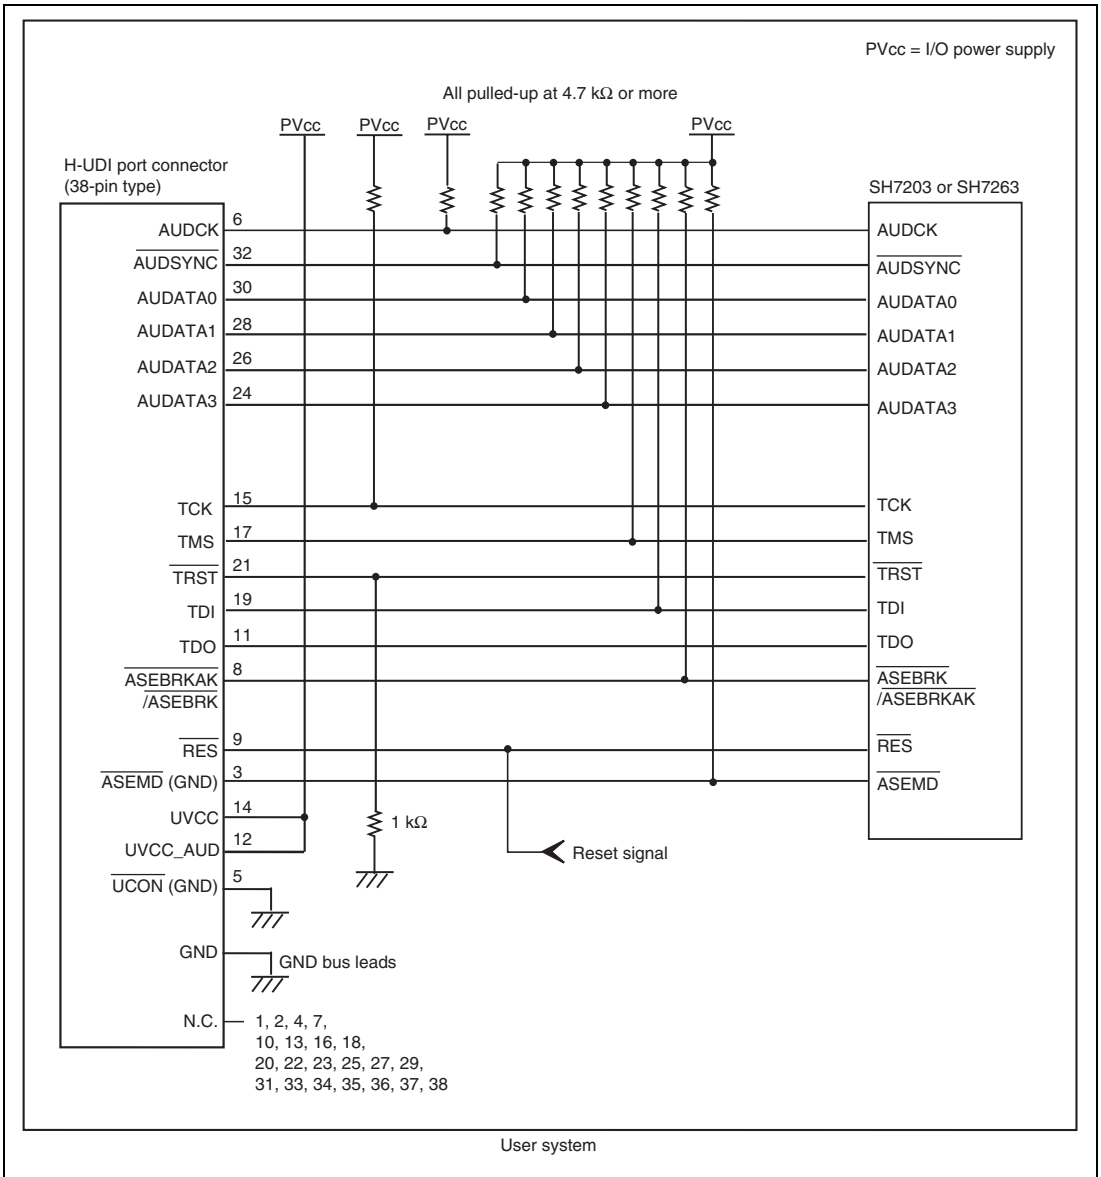

Figure 1.7 Recommended Circuit for Connection between the H-UDI Port Connector and MCU when the Emulator is in Use (38-Pin Type)
Figure 1.7 shows a recommended circuit for connection between the H-UDI and AUD port connectors (38 pins) and the MCU when the emulator is in use.
- (1) When the emulator is used: ASEMD# = 0
- (2) When the emulator is not used: ASEMD# = 1Figure 1.7 shows an example of circuits that allow the ASEMD# pin to be GND (0) whenever the emulator is connected by using the user system interface cable. When the ASEMD# pin is changed by switches, etc., ground pin 3. Do not connect this pin to the ASEMD# pin.
7. The resistance value shown in figure 1.7 is for reference.
When the circuit is connected as shown in figure 1.7, the switches of the emulator are set as SW2 = 1 and SW3 = 1. For details, refer to section 3.8, Setting the DIP Switches, in the SuperH™ Family E10A-USB Emulator User's Manual.